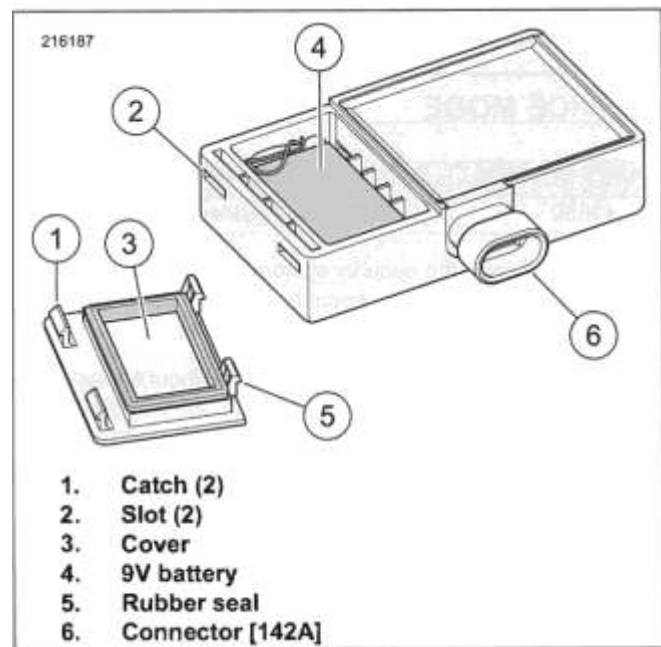

Figure 8-96. Battery Compartment
2. See Figure 8-96. With a small screwdriver, push the catches (1) in through the two slots (2) in the end of the siren. Release the battery cover (3).
3. Replace 9 volt battery (4) by removing old battery from polarized battery clip.
5. Install cover (3).
- a. Carefully replace the rubber seal (5) on the cover.
- b. Align battery cover with case placing round corners on cover away from connector [142A] (6).